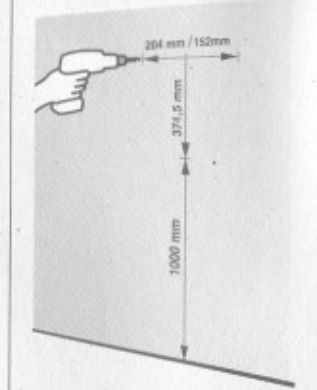

FIG. 4
- Insert the two upper screws. The screw heads must stand out from the wall surface for at least 8 mm (Fig. 4).